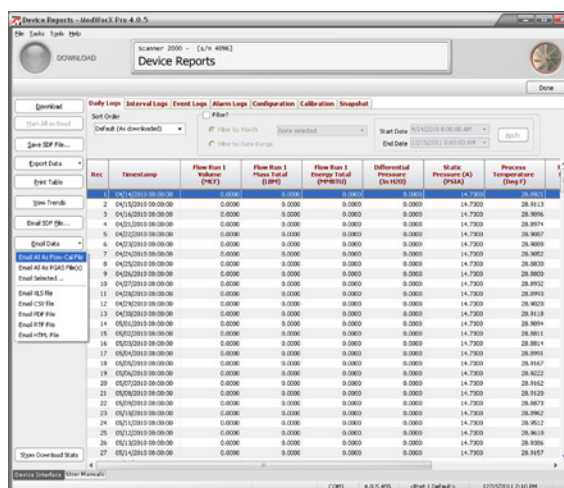

Figure 14.33
- Click the **Email Data** button at the left of the screen and select **Email All As Flow-Cal File** from the dropdown list (Figure 14.33). For PGAS files, select **Email All As PGAS Files**.